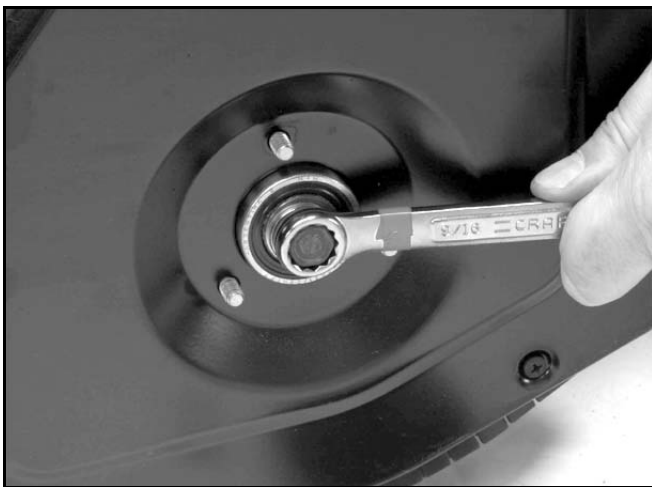

Figure 51
2. Remove the three nuts and bolts attaching the bearing and bearing retainers to each side plate (Figure 51).